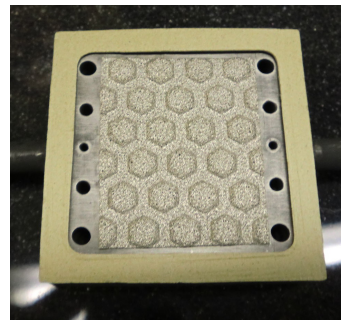

Figure 10
3. Place the nickel mesh on the active area of the manifold so that the raised pattern is facing up. Make sure the nickel mesh does not overlap the seal or cover the gas flow ports (Figure 10). Trim the nickel mesh to a slightly smaller size if necessary to prevent overlap.